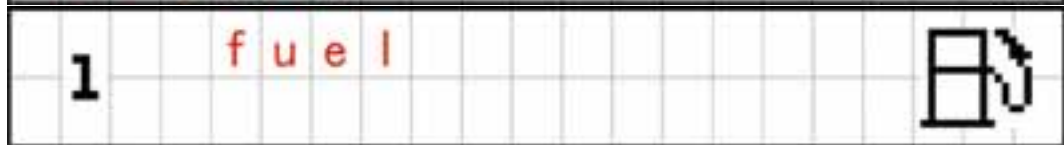

Fig. 4
- Oil pressure (see fig. 4 on the right-hand side)